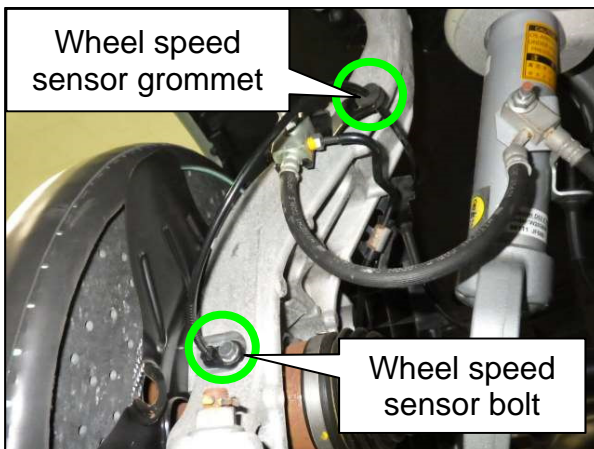
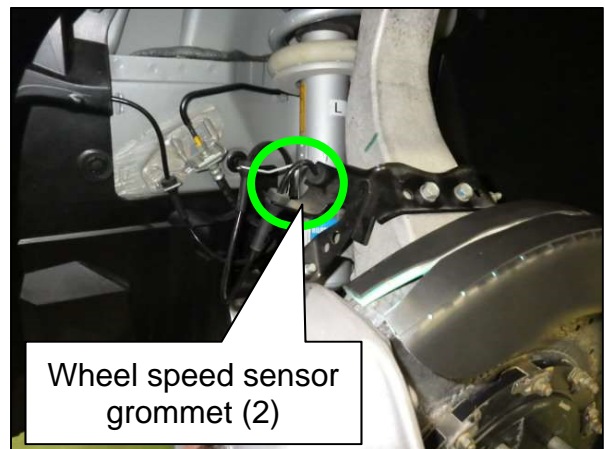

Figure 35
Figure 36
34. Install the wheel speed sensor to the steering knuckle using the original bolt (Figure 35).
- Connect the 3 speed sensor harness grommets to the brake hose bracket (Figure 35 and Figure 36).